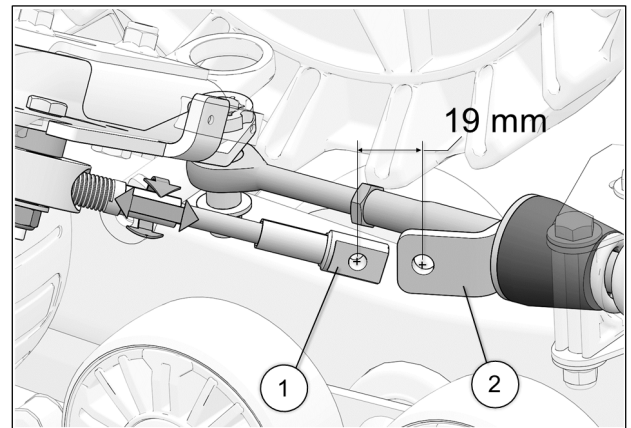

Fig. 27
15. Turn the vehicle's steering wheel to its maximum point of travel on the left. While maintaining pressure on the steering wheel, turn threaded rod to adjust length of cable. See Fig. 27
16. Position cable end hole (1) 19 mm [3/4 in.] short of support plate (2) mounting hole. See Fig. 27